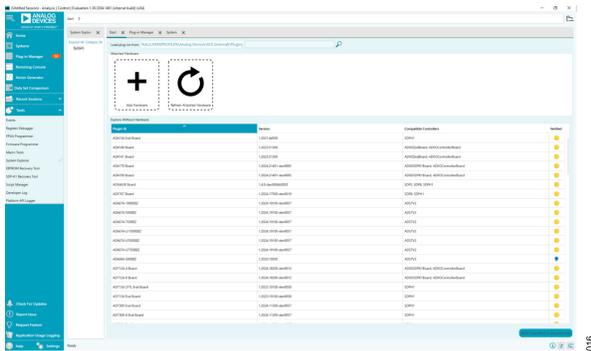

Figure 18. ACE Home Page
1. From the **Start** menu of the PC, select **All Programs > Analog Devices > ACE > ACE.exe** to open the ACE software main window shown in Figure 18.
2. If the EVAL-AD4170-4ARDZ is not connected to the USB port via the SDP-K1 when the software launches, the **AD4170 Board** icon does not appear in the **Attached Hardware** section in ACE (see Figure 18). To make the **AD4170 Board** icon appear, connect the EVAL-AD4170-4ARDZ and the SDP-K1 to the USB port of the PC, click **Refresh Attached Hardware**, wait a few seconds, and then follow the instructions in the dialog box that opens.